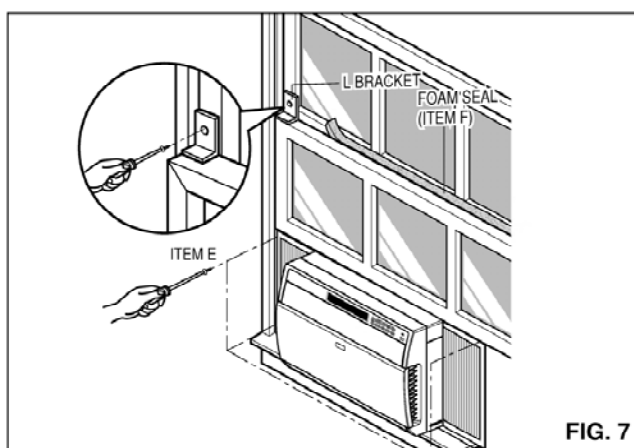

FIG. 7
2. SECURE THE curtain frames Expand the curtain frames and secure them using 4 screws (ITEM E) as shown in FIG. 7. When curtain frame opens or closes, you may feel a slight resistance. This is normal.
- Cut the foam seal (ITEM F) to the window width. Stuff the foam seal between the glass and the window to prevent air and insects from getting into the room, as shown in FIG. 7.